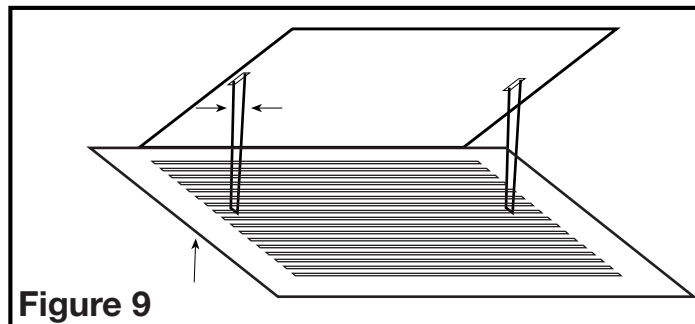

Figure 9
- Install the grill by squeezing the two ends of the springs together and installing them up into the slots on the fan's housing. Push the grill up into position (**Figure 9**).